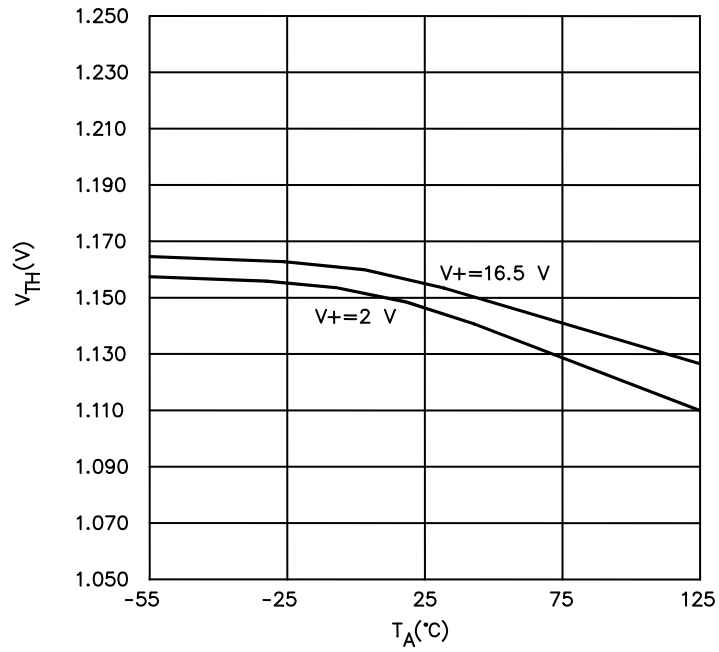

FIGURE 4. Threshold trip voltage vs ambient temperature.
3.5.4 Threshold trip voltage vs ambient temperature. The threshold trip voltage vs ambient temperature shall be as shown in figure 4.